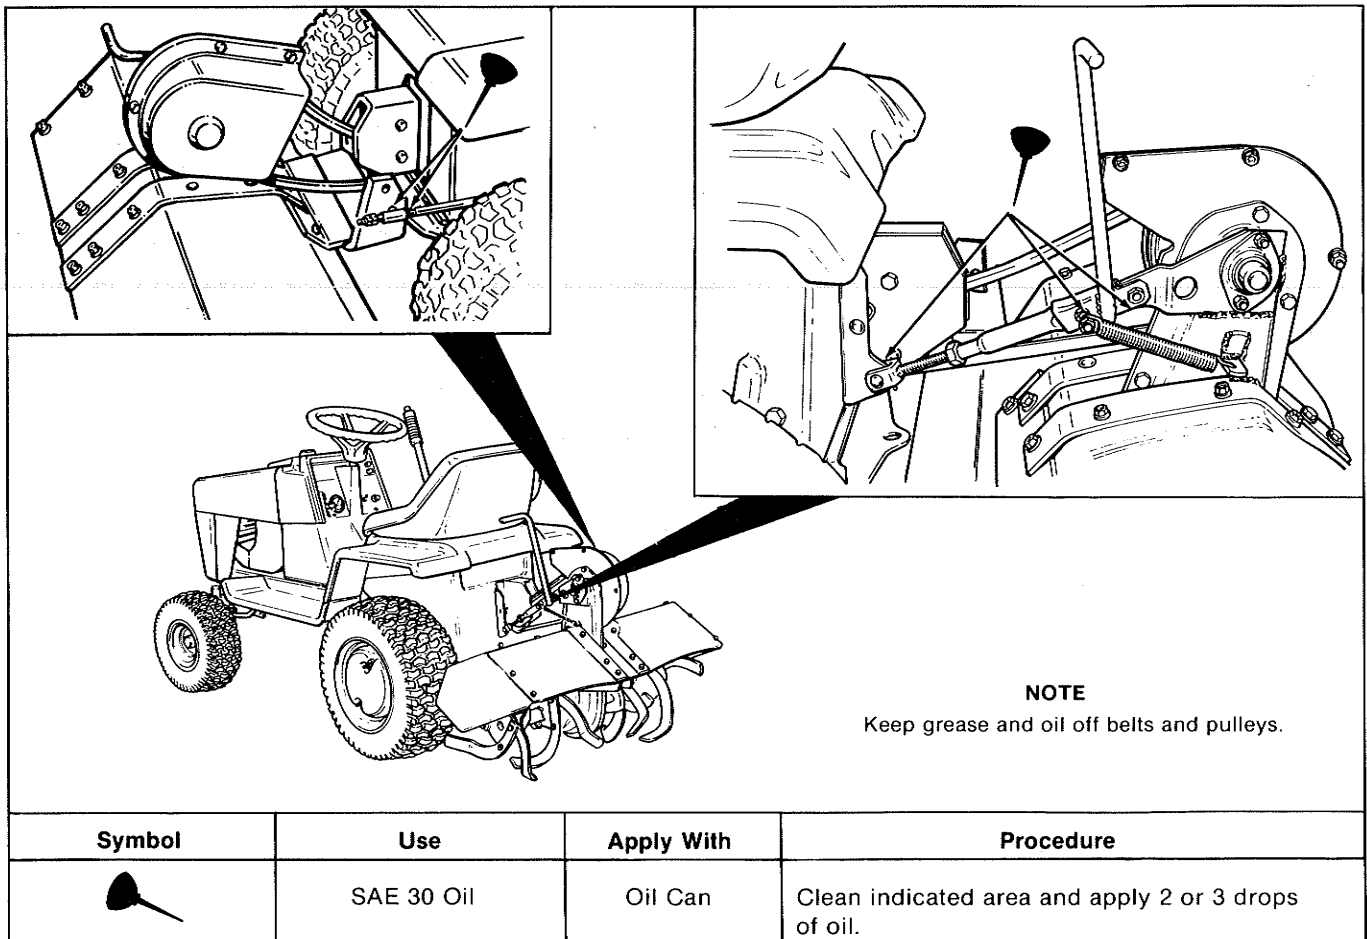

Figure 6. Lubricate Rotary Tiller (Every 4 Hours)
Before first use and every four hours, lubricate the tiller as shown in figure 6.
3. Lubricate the tiller as shown in figure 6.